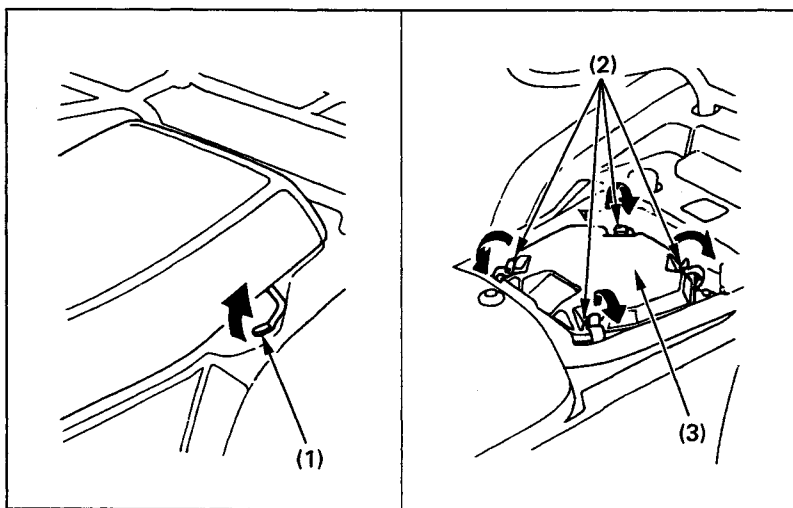

Fig. 4-5 (1) Seat lock lever
1. Remove the seat by pulling up the seat lock lever (Fig. 4-5).
2. Unlatch the four retainer clips (2) and remove the air cleaner housing cover (3).